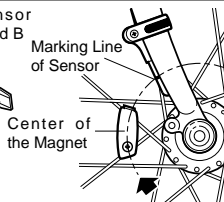
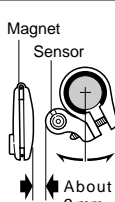

Fig. 11
Fig. 12
3. Align the magnet's center and the sensor's marking line (Fig. 11), and make sure of 2mm clearance between the magnet and sensor (Fig. 12). Then tighten the screw securely. Cut off the excess of sensor band B.